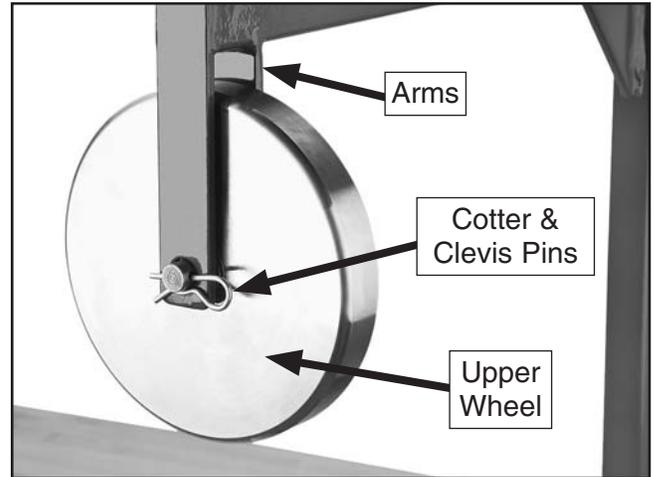

Figure 8. Upper wheel installed.
5. Position the upper wheel between the frame arms, insert the upper wheel clevis pin through the arms and wheel, and secure the pin with the hairpin cotter pin (see **Figure 8**).